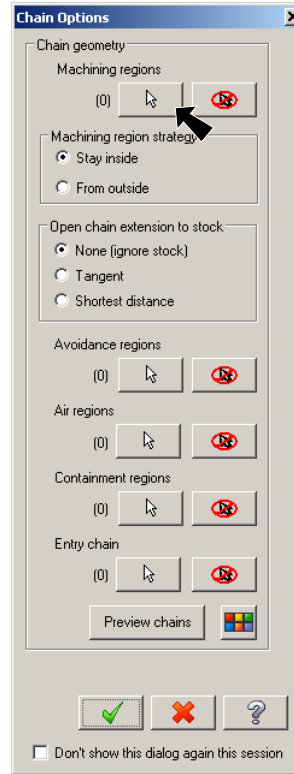

Fig. 59
Step 3. Select **Machining regions** button in Chain Options dialog box, **Fig. 59**.